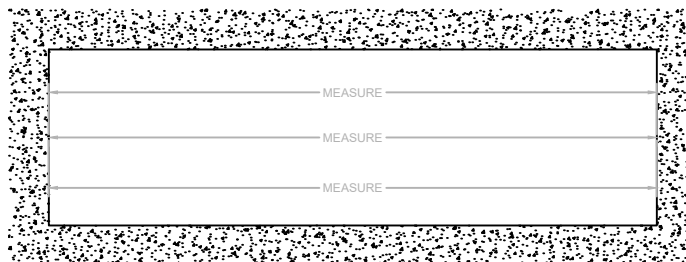

FIG. 2
- Measure the width of the opening at the top, middle, and bottom. Select the smallest of these dimensions and subtract the left and right caulk joint width per approved shop drawings ($\frac{1}{4}$ " Min caulk joint at each jamb). See **FIG. 2**.